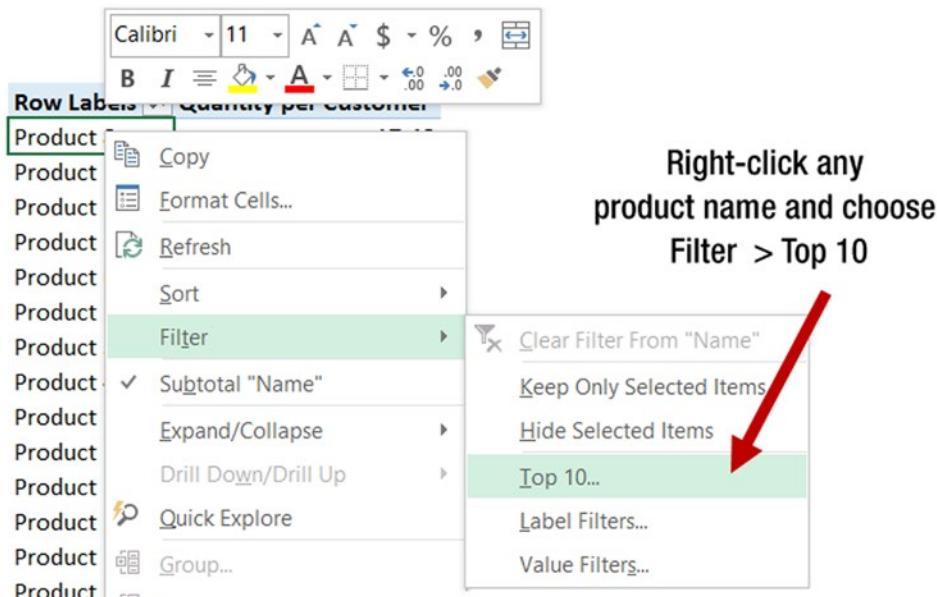

Figure 24-22. Filtering top five products using the Top 10 value filter
5. To do that, right-click any product name and choose Filter ▶ Top 10. See Figure 24-22.